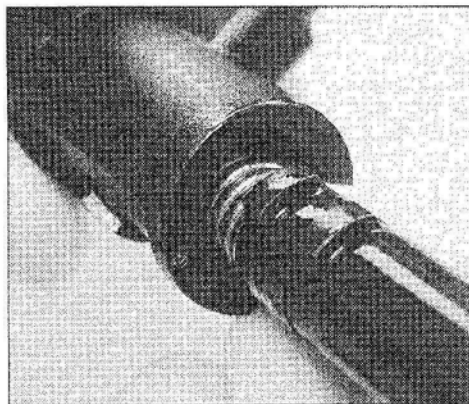

Fig. 04 Refitting The Shroud/Firing Pin Assembly Back Into The Bolt Body
- 5.12.7 To reassemble the bolt, insert the shroud/firing pin assembly back into the bolt body aligning that the shroud retaining lugs with the opening in the bolt body, see Fig. 04 "Refitting The Shroud/Firing Pin Assembly Back Into The Bolt Body".